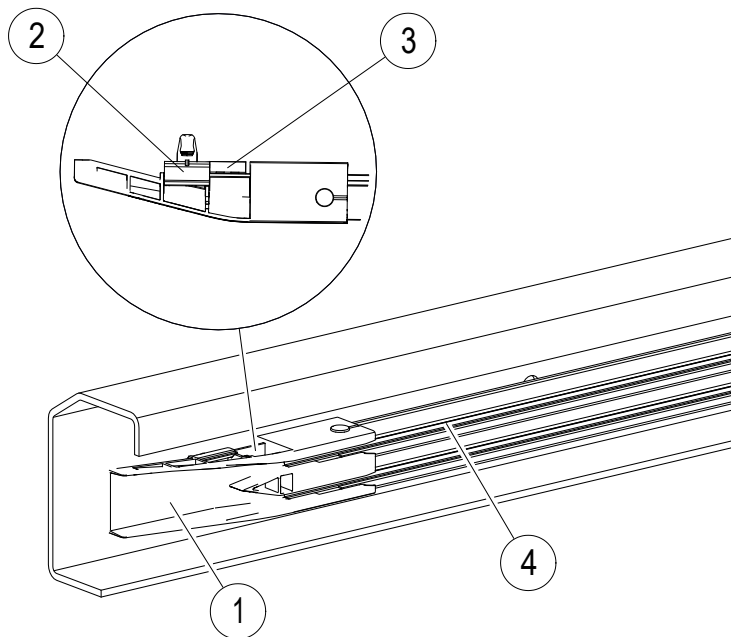
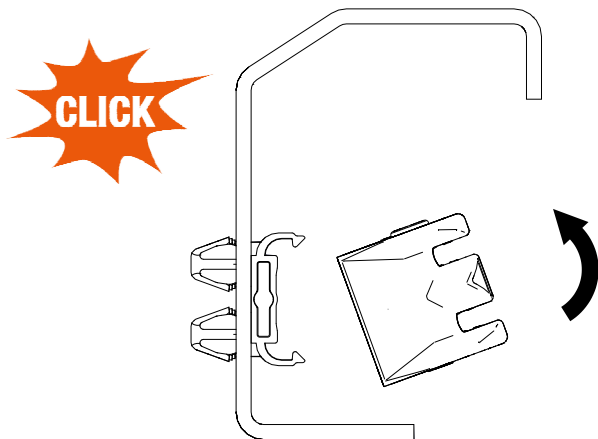

Fig. 12: Conductor rail (Pos. 4) cannot expand
Fig. 28: Hook rail into hanger clamp
- Together with a hanger clamp (Pos. 2), the fixing web (Pos. 3) of the pickup guide (Pos. 1) can be used as an anchor point (see Fig. 12). Hang the conductor rail (Pos. 4) in the hanger clamps (see Fig. 28), so that an anchor point is created and the conductor rail cannot expand.
→ Hang the Conductor Rail Segment 0865 in the hanger clamp (see Fig. 28).
→ Hook the conductor rail into the hanger clamps (see Fig. 28).